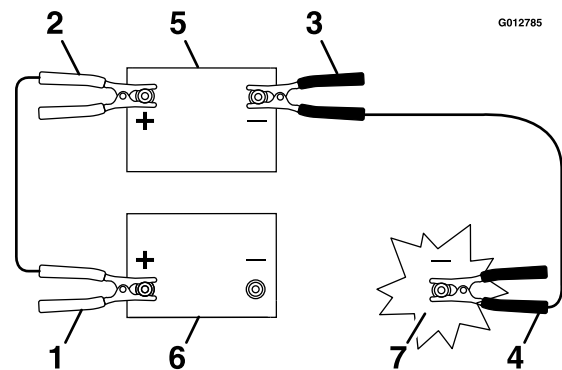

Figure 69
- Connect the positive (+) cable to the positive (+) terminal of the discharged battery that is wired to the starter or solenoid as shown in Figure 69.